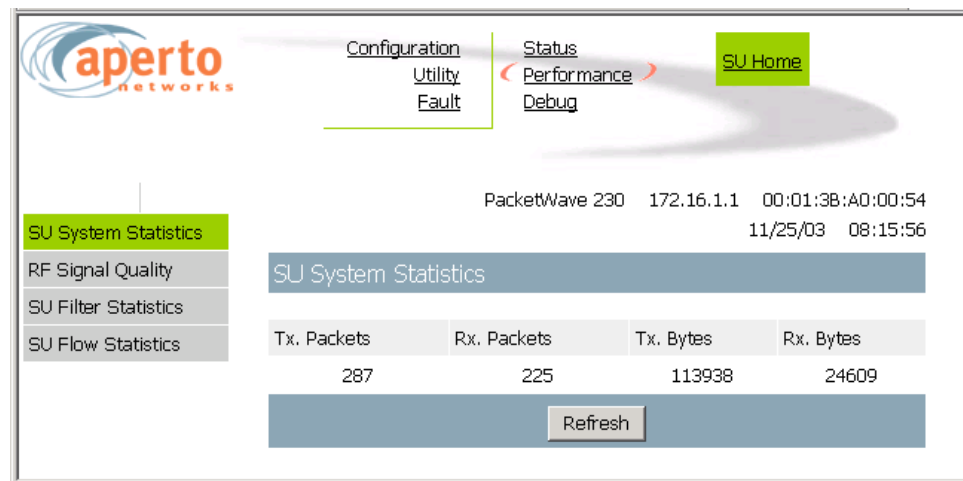

Figure 6-36 System Statistics Page
- The SU System Statistics page (*Figure 6-36*) includes counts of packets and bytes transmitted and received on the wireless link.